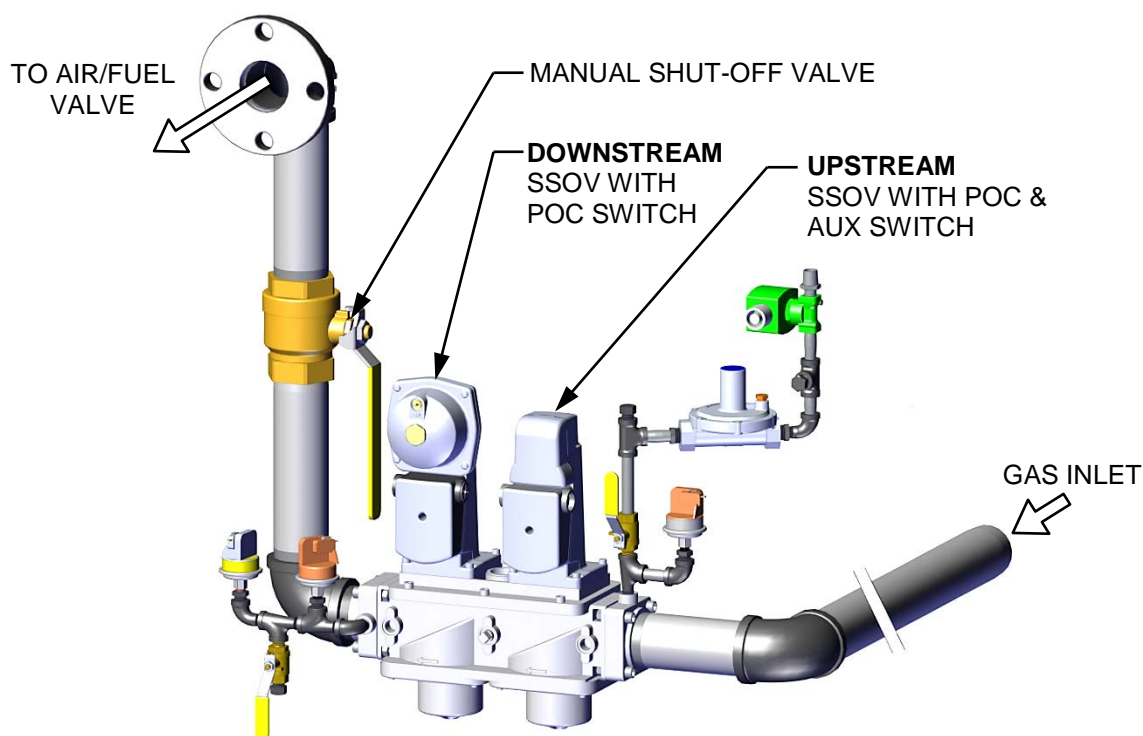

Figure 3-3: SSOV Location
2. The unit checks to ensure that the Proof of Closure (POC) switch in the downstream Safety Shut-Off Valve (SSOV) is closed. See Figure 3-3 for the downstream SSOV location.